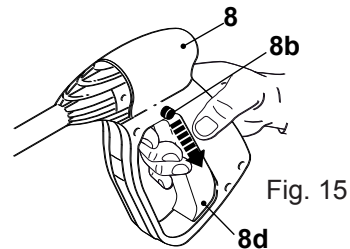

Fig.15, trigger lock deactivated, the trigger can be operated
2. Deactivate the trigger lock by pressing the deactivate button (8b) to start operation (Fig. 15).